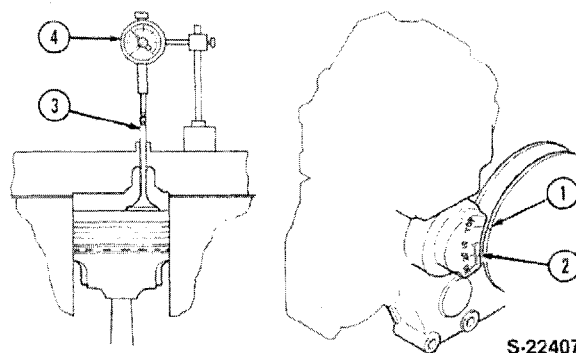

Figure 12
5. Rotate the crankshaft to align the pulley timing mark with the timing pointer, Figure 12.
8. Using a dial indicator, set up the indicator on the valve stem as shown, Figure 12.